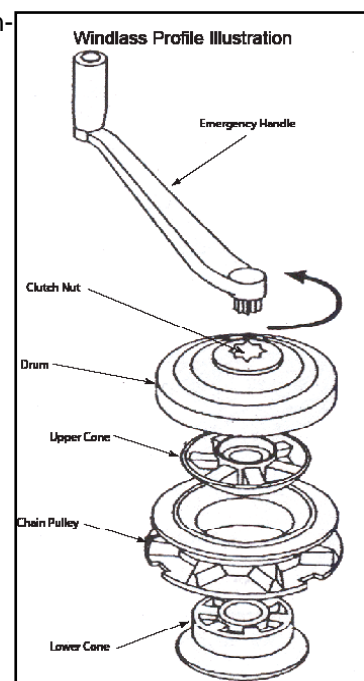

Fig. 6.9
- With the anchor in the stowed position, tighten the windlass clutch by inserting the emergency handle in the clutch nut. (See fig 6.9) and turn clockwise.